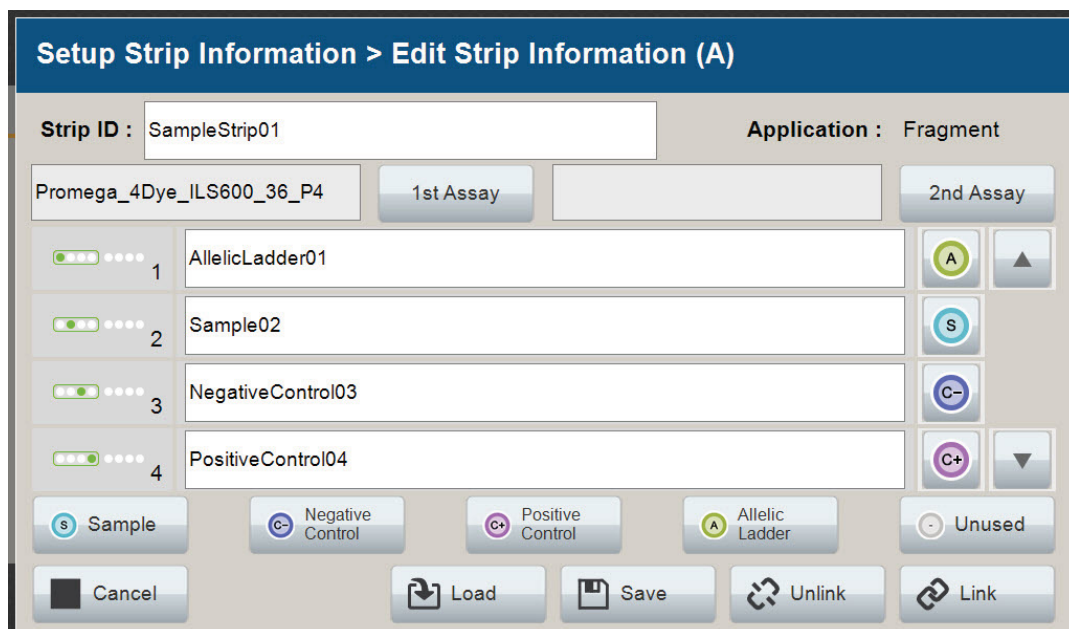

Figure 17. Completed 'Edit Strip Information' screen.
11. When all information is entered and verified for the strip, select **Link** on the lower right corner of the 'Edit Strip Information' screen (Figure 17). This will link the strip to the run. If you want to save the strip information to use in future runs, save the information by selecting **Save** at the bottom of the 'Edit Strip Information' screen (Figure 17). This will save the strip information so that it can be loaded later into another run as well as link the strip to the run. Refer to the *Spectrum Compact CE System Operating Manual #TMD058* for use of saved strip information.